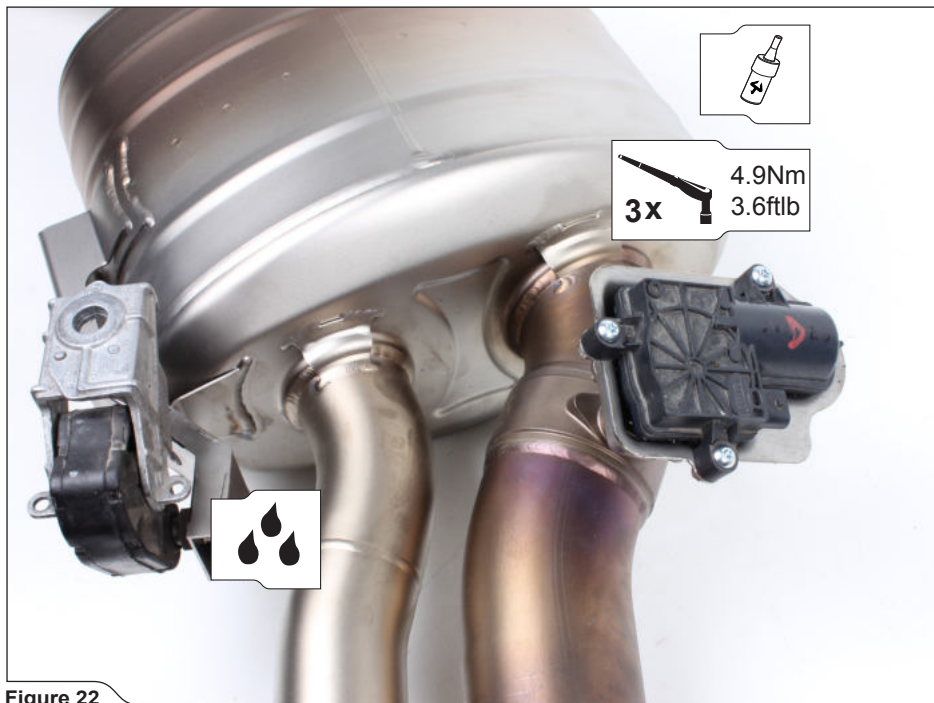

Figure 22
7. Install the stock exhaust valve actuators (using bolts and nuts from Akrapovič installation kit) and the stock muffler rubber brackets onto the Akrapovič mufflers, as shown (Figure 22, 23).